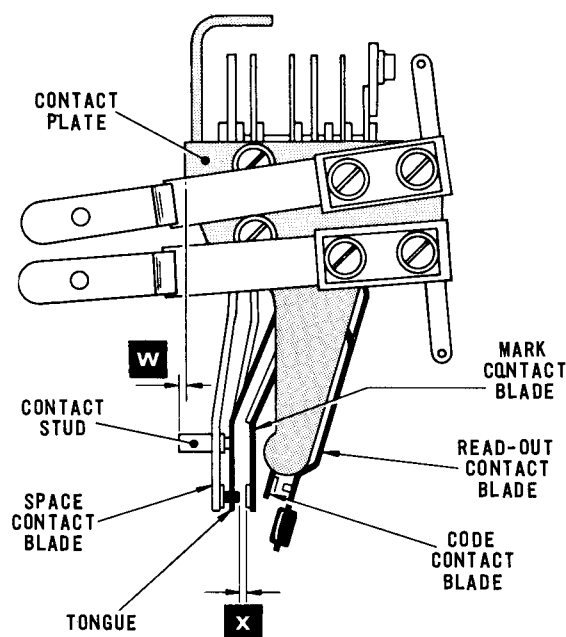

Fig. 4.18 TRANSMITTER UNIT—FRONT VIEW
- 23.1 Check that the left-hand face of the contact plate, Fig.4.18, is clear of the tips of each contact stud by a maximum of .010 in. (dimension 'w') and that the tips of the studs are in alignment.